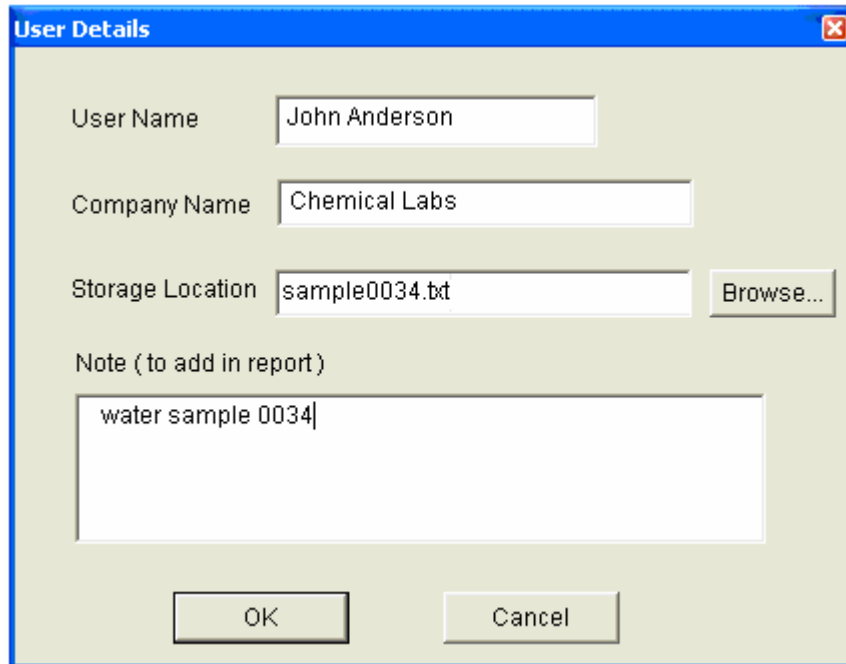

Figure 22 : User details dialog
2. Click **Save Data** button. **User Details** dialog appears to capture user information, file name and additional notes (if any).(Figure 22)
2. Make sure the IrDA port of the meter is closer and in-line with IrDA port of the computer. Go to 'stored data viewing' screen as described in above section (Figure 22).